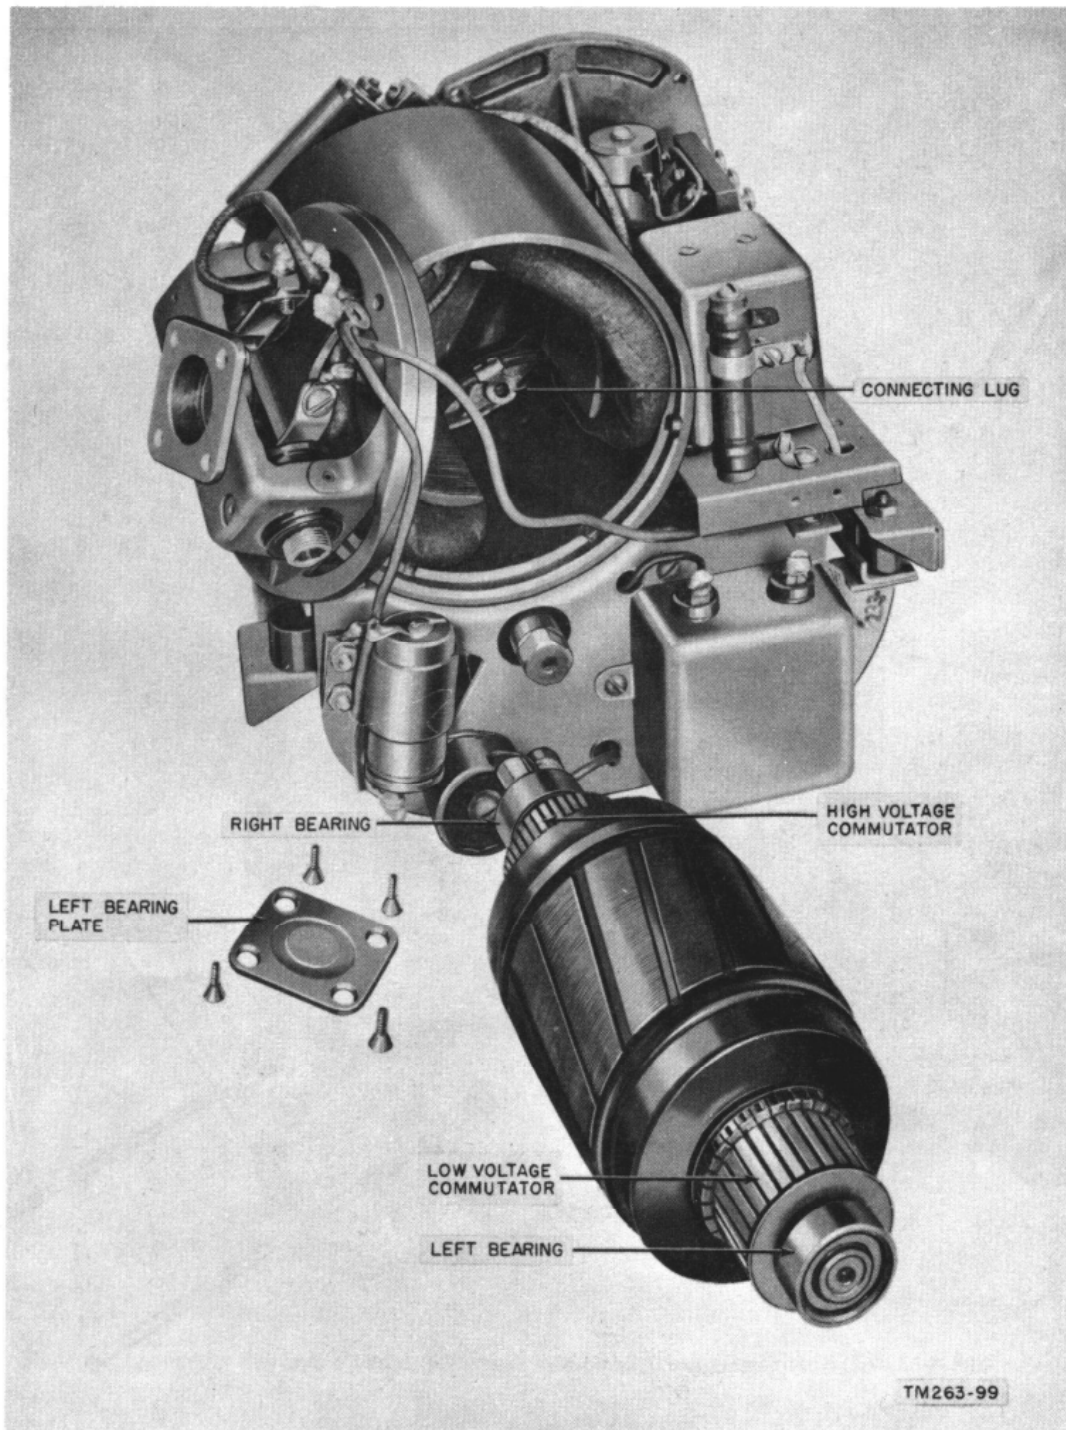

Figure 155. Armature removed from generating unit of Generator GN-58-(\*).
g. Now pull the armature gently through the generating unit (fig. 155).